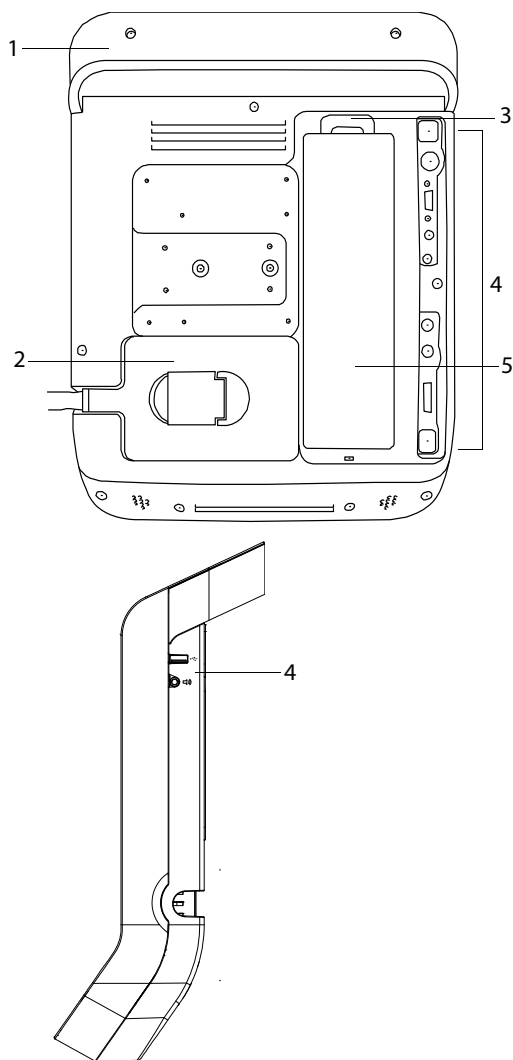

Figure 1 System Back (Top) and Side (Bottom)
The back of the system has compartments for the battery and transducer as well as connectors for USB devices, power cords, cables, and more. The side has additional connectors. (See Figure 1 on page 2.)
- 1 Connect the DC power cable from the power supply to the connector on the system. See Figure 1 on page 2.
❖ Insert the USB storage device into a USB port on the system. See Figure 1 on page 2.